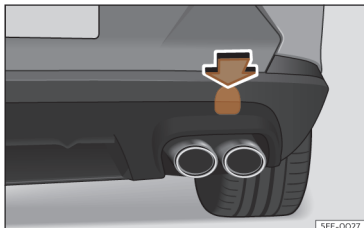

Fig. 45 On the right side of the rear bumper: remove the cover.
The housing of the screw towing eye is on the right side of the rear bumper behind a lid >>> **Fig. 45**.
- Press the upper side of the lid >>> **Fig. 45** to unclip it.